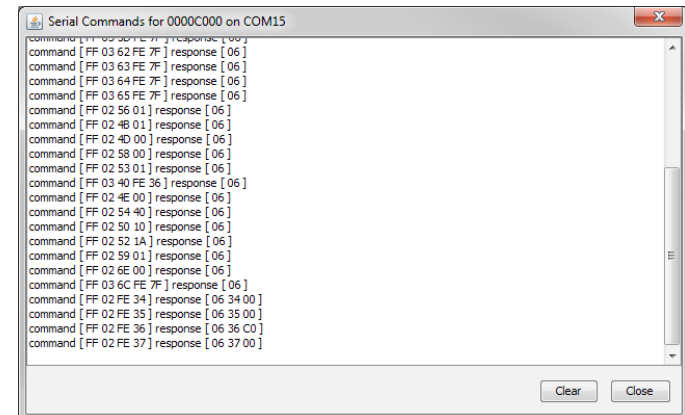

Figure 24: The Master Development System Software Show Commands Window
7. The Show Commands button opens a window that shows the bytes sent to the module and the responses from the module (Figure 24).